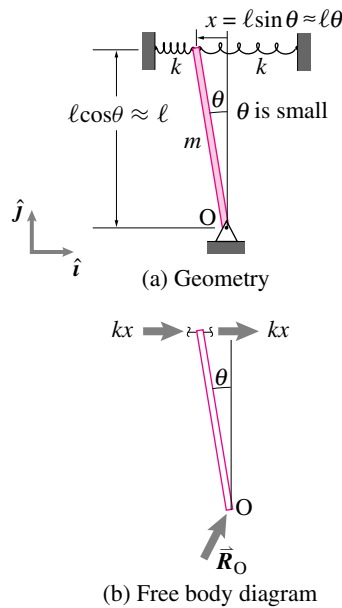

Figure 16.76
1. Refer to the free-body diagram in figure 16.76. Angular momentum balance for the rod about point O gives